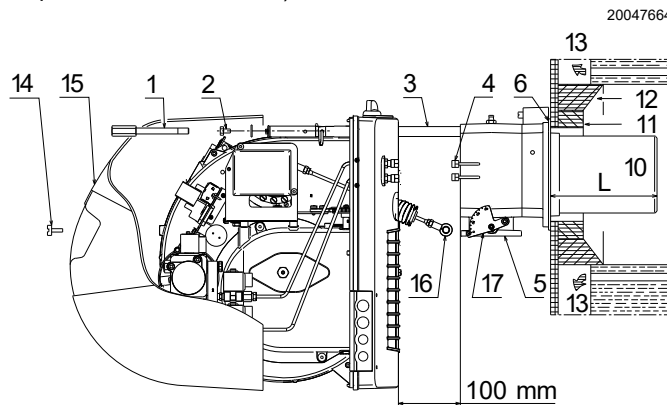

Fig. 11
For boilers with a water-cooled front piece, a refractory lining 11)-12)(Fig. 11) is not necessary, unless expressly requested by the boiler manufacturer.
- Separate the combustion head from the rest of the burner (Fig. 11):
- Refit the burner 4)(Fig. 16) on the slide bars 3) at about 100 mm from the pipe coupling 5), burner in the position shown in Fig. 11 on page 17.
- Reconnect the light oil pipes by screwing the two fittings 4)(Fig. 11 on page 17).